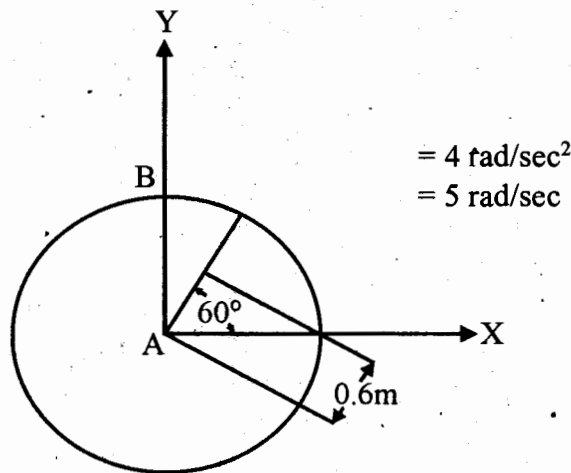

Fig. 9
- (b) A wheel of radius 1.0 m rolls freely with an angular velocity of 5 rad/sec and with an angular acceleration of 4 rad/sec², both clockwise as shown in Fig. 9 determine the velocity and acceleration of points B and D shown in figure.